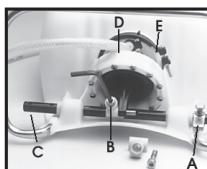

Figure 1
- Using a 13mm socket wrench, remove handle bolts and loosen the stop plate (A) and remove the two allen head screws (B) that hold the connecting pieces to the pump rod. Figure 1.